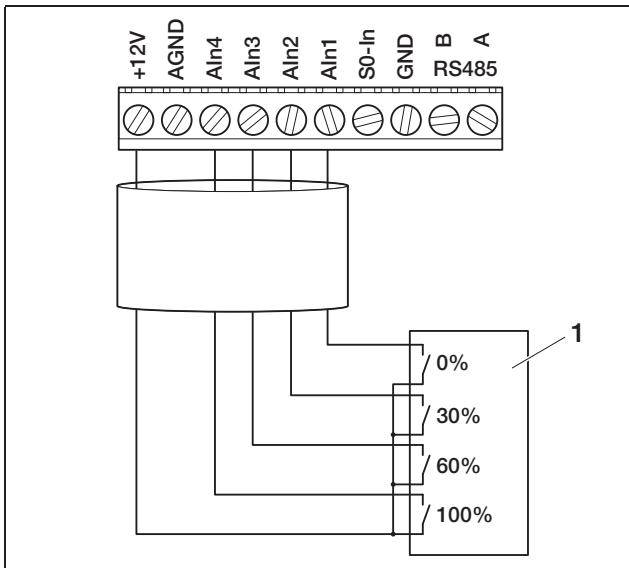

Fig. 65: Connecting the ripple control receiver to the inverter
- Connect the ripple control receiver lines in accordance with the terminal assignment (figure 65 and table 10).